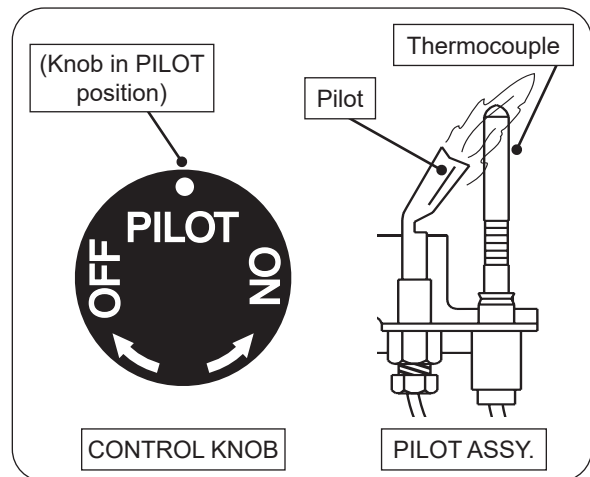

Fig. 23-1 Pilot lighting
3. Locate the pilot assembly on the side or the rear of the burner pan (see Fig. 23-1).
4. Turn the control knob counterclockwise to **PILOT**. Push the knob **firmly and fully** in and hold. Hold a lighted long-stem match/ long-necked butane lighter near the thermocouple to light the pilot. Continue to hold the knob in for about one (1) minute after the pilot is lit. Release the knob and it will pop back out. The pilot will remain lit. See Fig. 23-1. If it goes out, repeat steps 2-4.